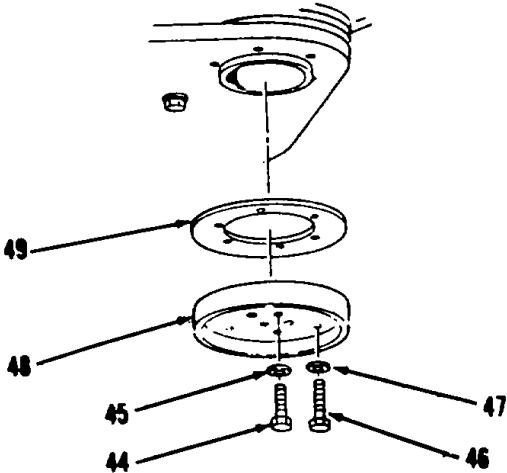

Figure 16-12.
- 23. Remove four bolts (44), lockwashers (45), six bolts (46), lockwashers (47), plate (48) and shim(s) (49, Figure 16-12). Tie shim(s) (49) together and tag for identification.
- 16. Install a thickness of shim(s) (49) same as minimum distance measured in step 14 minus 0.010 inch, plate (48), six lockwashers (47), bolts (46), four lock-washers (45) and bolts (44, Figure 16-12).